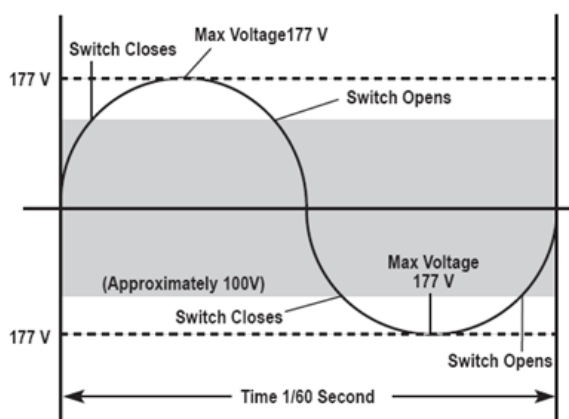

Figure8. The electric switch in the starter circuit closes every time voltage of 60 cycle AC power source rises above a certain level.
The electronic switch of the starter is activated by the rise and fall of the voltage levels that occur in the 60-cycle alternating current (AC) used to power the lighting fixture. As you can see from the 120-volt AC waveform shown in Figure 8, the voltage cycles from 0 to 177 volts, to 0 to 177 volts again, 60 times per second. The average voltage is 120 volts. As the voltage rises and falls in each half cycle, the electronic switch opens and closes, just as the breaker points in the automotive distributor open and close when the distributor camshaft is rotated.